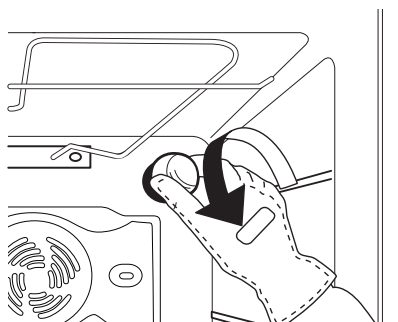

Fig. 8
2. Unscrew the lamp cover (Fig. 8), replace the lamp (see note for lamp type) and screw the lamp cover back on.